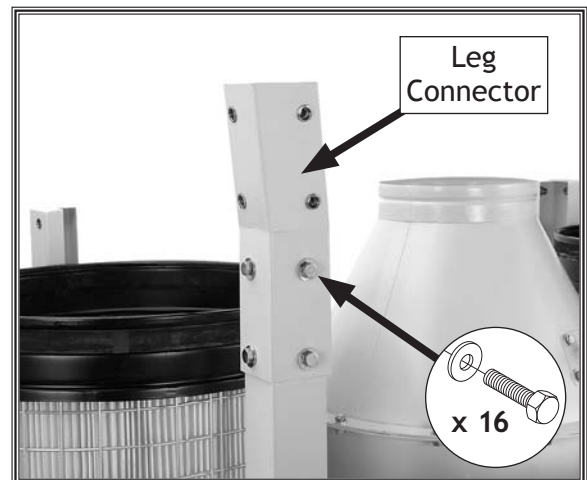

Figure 15. Stand leg connector attached to the upper stand leg.
- Slide the four stand leg connectors onto the upper stand legs, then connect them with (16) $\frac{3}{8}$ "-16 x $\frac{3}{4}$ " hex bolts and (16) $\frac{3}{8}$ " flat washers, as shown in **Figure 15**.